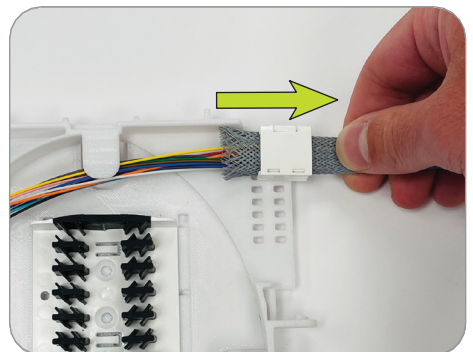

Figure 11
4. Close the V-Clip cover and fully engage the insert by pulling the mesh gently so the insert fully sits inside the V-Clip. The mesh should extend at least ½" beyond the clip. (Figure 11)